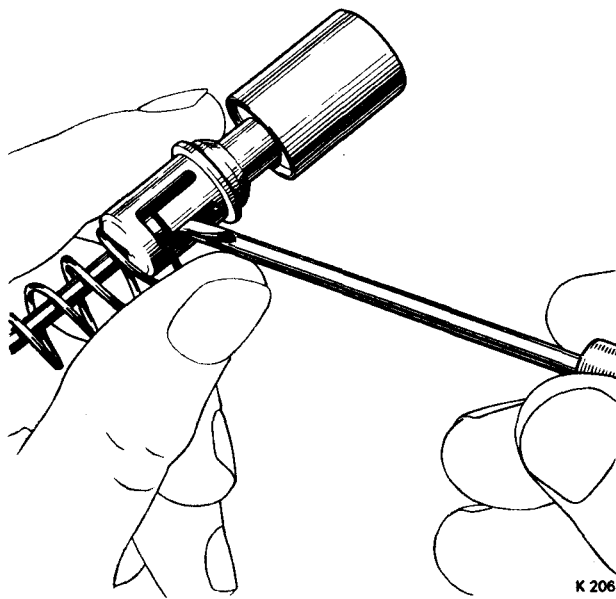

FIG. G39 UNLOCKING THE RETAINER
6. Using a small screwdriver, ease the depressed prong of the spring retainer out of its recess, until the spring retainer and cut-off valve stem can be disconnected from the plunger (see Fig. G39).